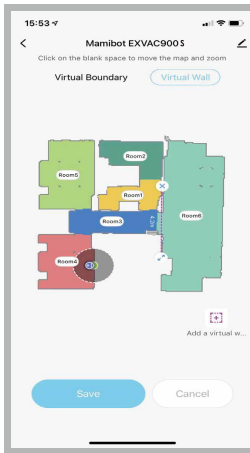

Fig. 21
- Users can set virtual boundary: for No-go-area, No-mop-area and virtual wall (Fig.21, Fig.22).